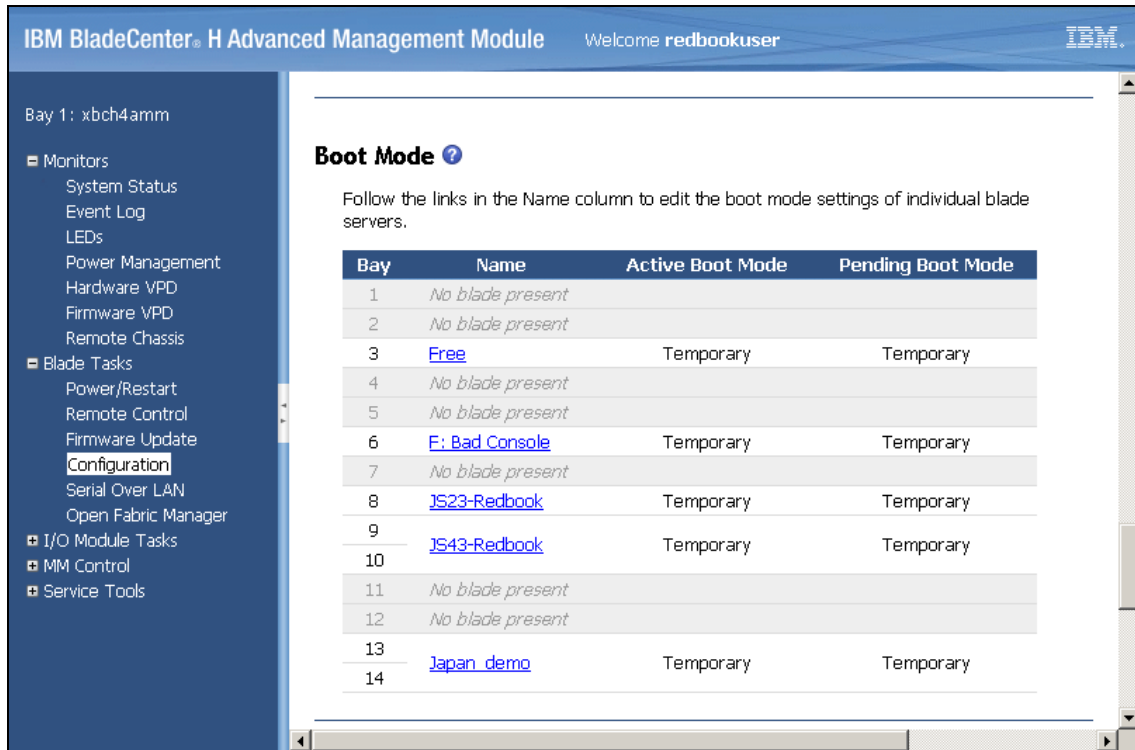

Figure 12-1 Select BladeCenter boot mode main page
2. Click **Blade Tasks** → **Configuration** → **Boot Mode**. Figure 12-1 on page 463 shows the AMM page for selecting blade's boot mode.
- Verify that the system starts using the firmware image from the TEMP side. It can be done by running steps 1 and 2 again (see Figure 12-1 on page 463).